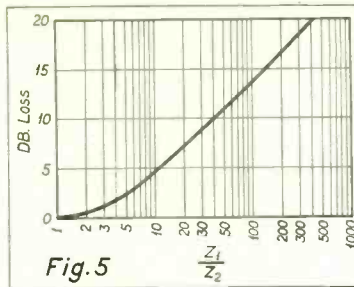

Fig. 5 IMPEDANCE RATIOS PLOTTED AGAINST DB LOSS.
Fig. 5 is plotted from equation (8) for impedance ratios from 1 to 1000. Z_1 and Z_2 are the terminal impedances, whose ratio is kept greater than unity by placing the one with largest magnitude in the numerator.